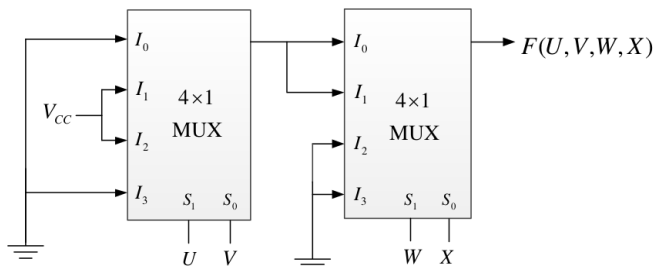

Fig. 3.11
22. Find the logic function implemented by the circuit given below in Fig. 3.11 (GATE EC 2018)